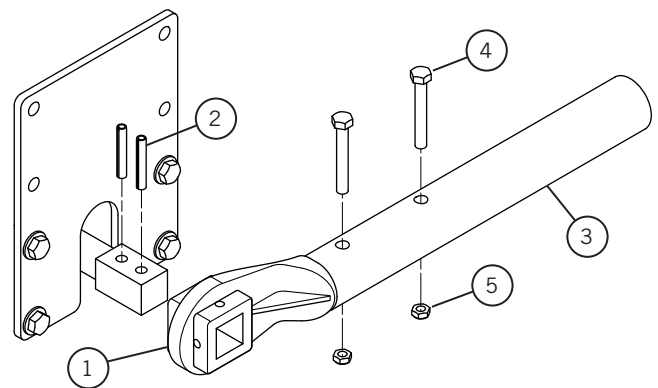

Figure 28-1
1) **Figure 28-1.** Place swing arm lower (3) onto casting and secure with 5/16-18 x 2 1/4 hex bolt (4) and 5/16-18 nylon hex jam nut (5).
2) **Figure 28-1.** Place end fitting (1) on the driver's side tension spring assembly shaft so it is facing the rear.
3) **Figure 28-1.** Drive 1/4" spring pins (2) into the end fitting (1) and through the shaft.